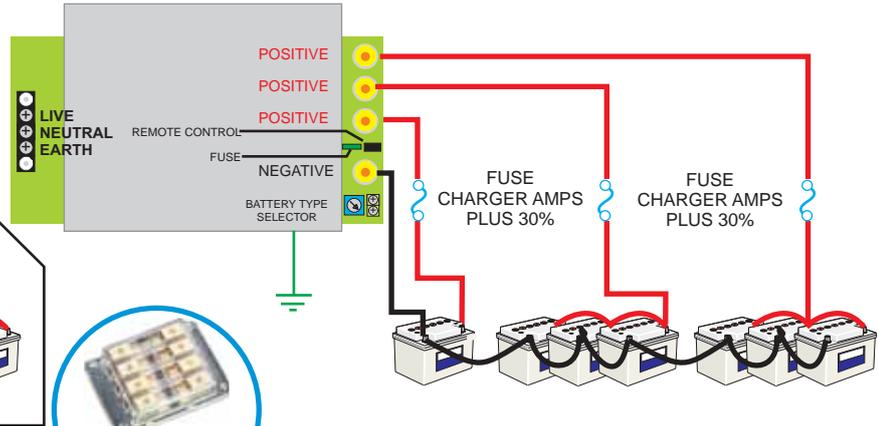

Fig. 3
- Connect the cables as indicated in Fig 3. **Always ensure that all the terminals are being used!** Where only one battery is being charged, connect the surplus positive output terminals to the other used output terminal. This ensures correct regulation; failure to do this could reduce the charging performance.